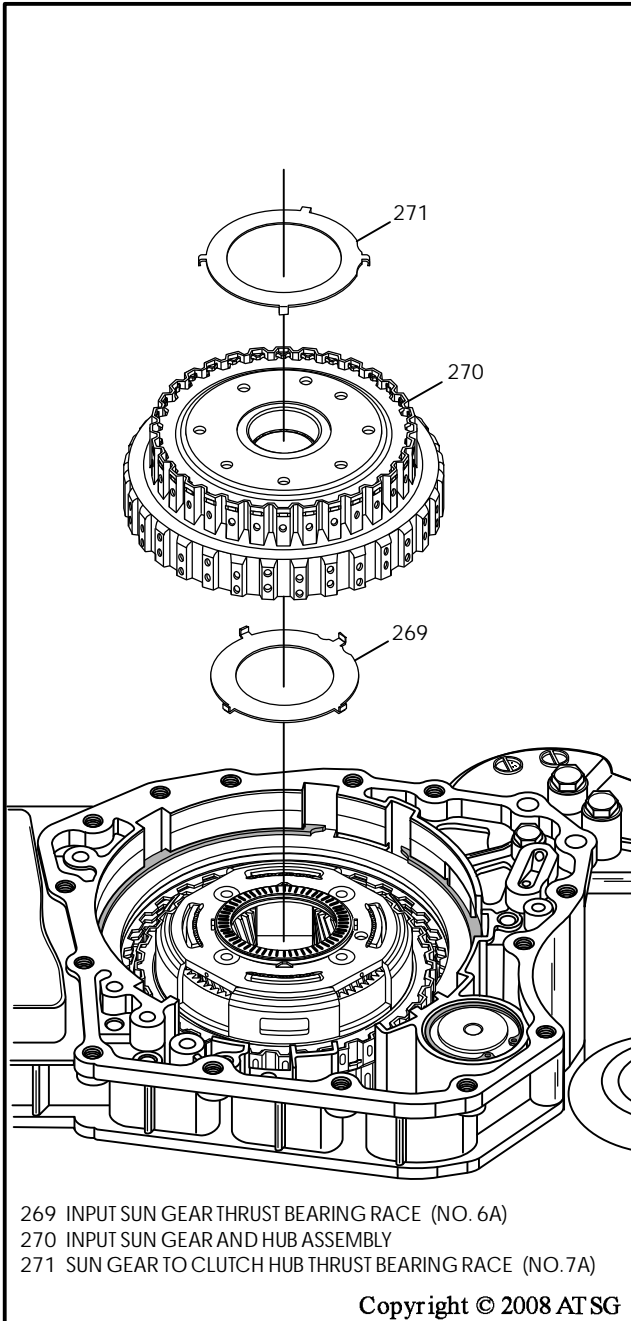

Figure 202
29. Ensure that number 6A thrust bearing race and number 7A thrust bearing race are still in place on the input sun gear, as shown in Figure 202.
30. Install the input sun gear/clutch hub assembly, as shown in Figure 202, by rotating back and forth to engage the 2-4 brake clutch frictions and the input carrier.